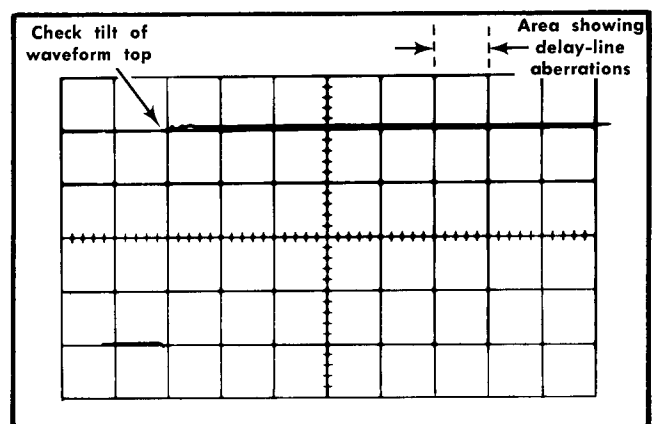

Fig. 5-7. Typical CRT display showing acceptable delay-line termination and compensation.
d. CHECK—CRT display for minimum aberrations in the area about 280 nanoseconds (five to six divisions) after the rising portion of the waveform (see Fig. 5-7). Also check for less than 3% tilt of the waveform top.